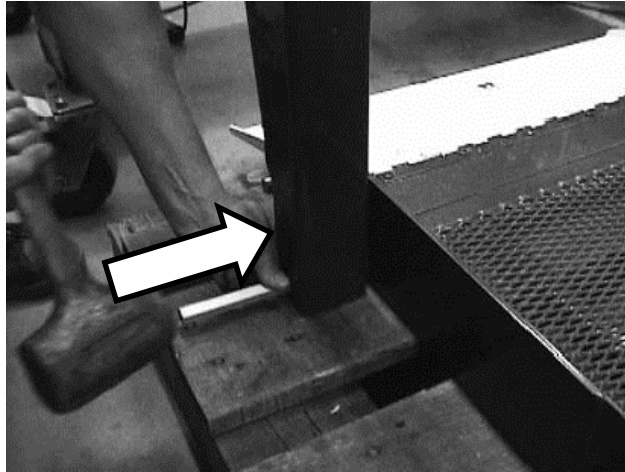

Figure 12. Drive Out Main Shaft
13. Refer to **Figure 12**. Use a rubber mallet and cylinder to drive main shaft out from vertical arm.